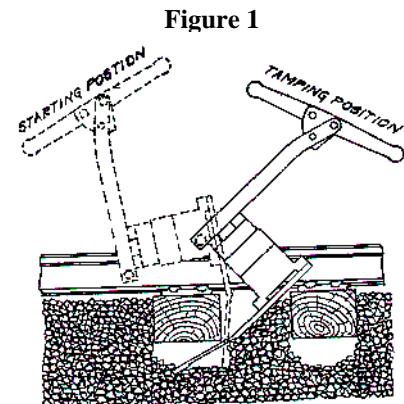

Figure 1
This is the tamping blow. Because the primary blow is produced by a revolving unbalanced element instead of a piston or reciprocating hammer, two secondary vibratory actions are produced. Their direction is in a horizontal plane at right angles to each other when the tamper is held in the starting position as outline in Figure 1.
- The method of making the first insertion is clearly illustrated in Figure 1.